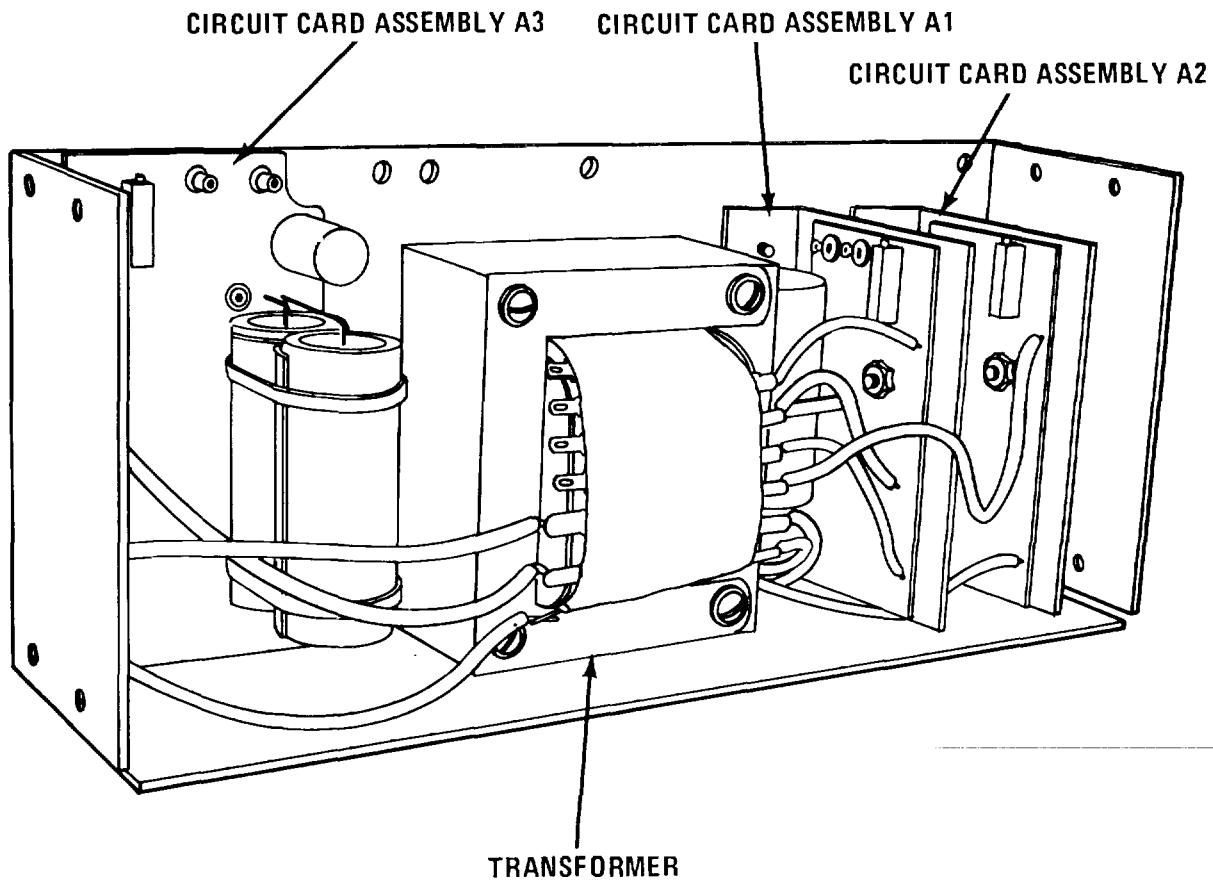

Figure 8-6. Power Supply, 4PS1
g. 4PS1A1 Circuit Card Assembly Disassembly. To disassemble 4PSIA1 circuit card assembly for servicing or component replacement, perform the following steps. Further disassembly should be limited to removal of parts for repair or replacement. Refer to figure 8-6 for location of circuit card.
- (1) Disconnect the green wire from the top of the card.
- (2) Remove the two screws on the back cover of the power supply.
- (3) Disconnect the two orange wires from the top of the card.
- (4) Remove the bracket with the circuit card still attached.
- (5) Remove the two screws holding transistor Q2 to the bracket.
- (6) Unsolder the black ground wire from the back of the card and remove card.
h. 4PS1A2 Circuit Card Assembly Disassembly. To disassemble 4PS1A2 circuit card assembly for servicing or component replacement, perform the following steps. Further disassembly should be limited to removal of parts for repair or replacement. Refer to figure 8-6 for location of circuit card.
- (3) Disconnect the violet wire from the top of the circuit card.
i. 4PS1A3 Circuit Card Assembly Disassembly. To disassemble 4PS1A3 circuit card assembly for servicing or component replacement, perform the following steps. Further disassembly should be limited to removal of parts for repair or replacement. Refer to figure 8-6 for location of circuit card.
- (3) Disconnect the four yellow wires from the top of the card.
- (4) Disconnect the grey and white wires from transformer T1.
- (5) Remove the four screws holding transistors Q2 and CR1 to the power supply.